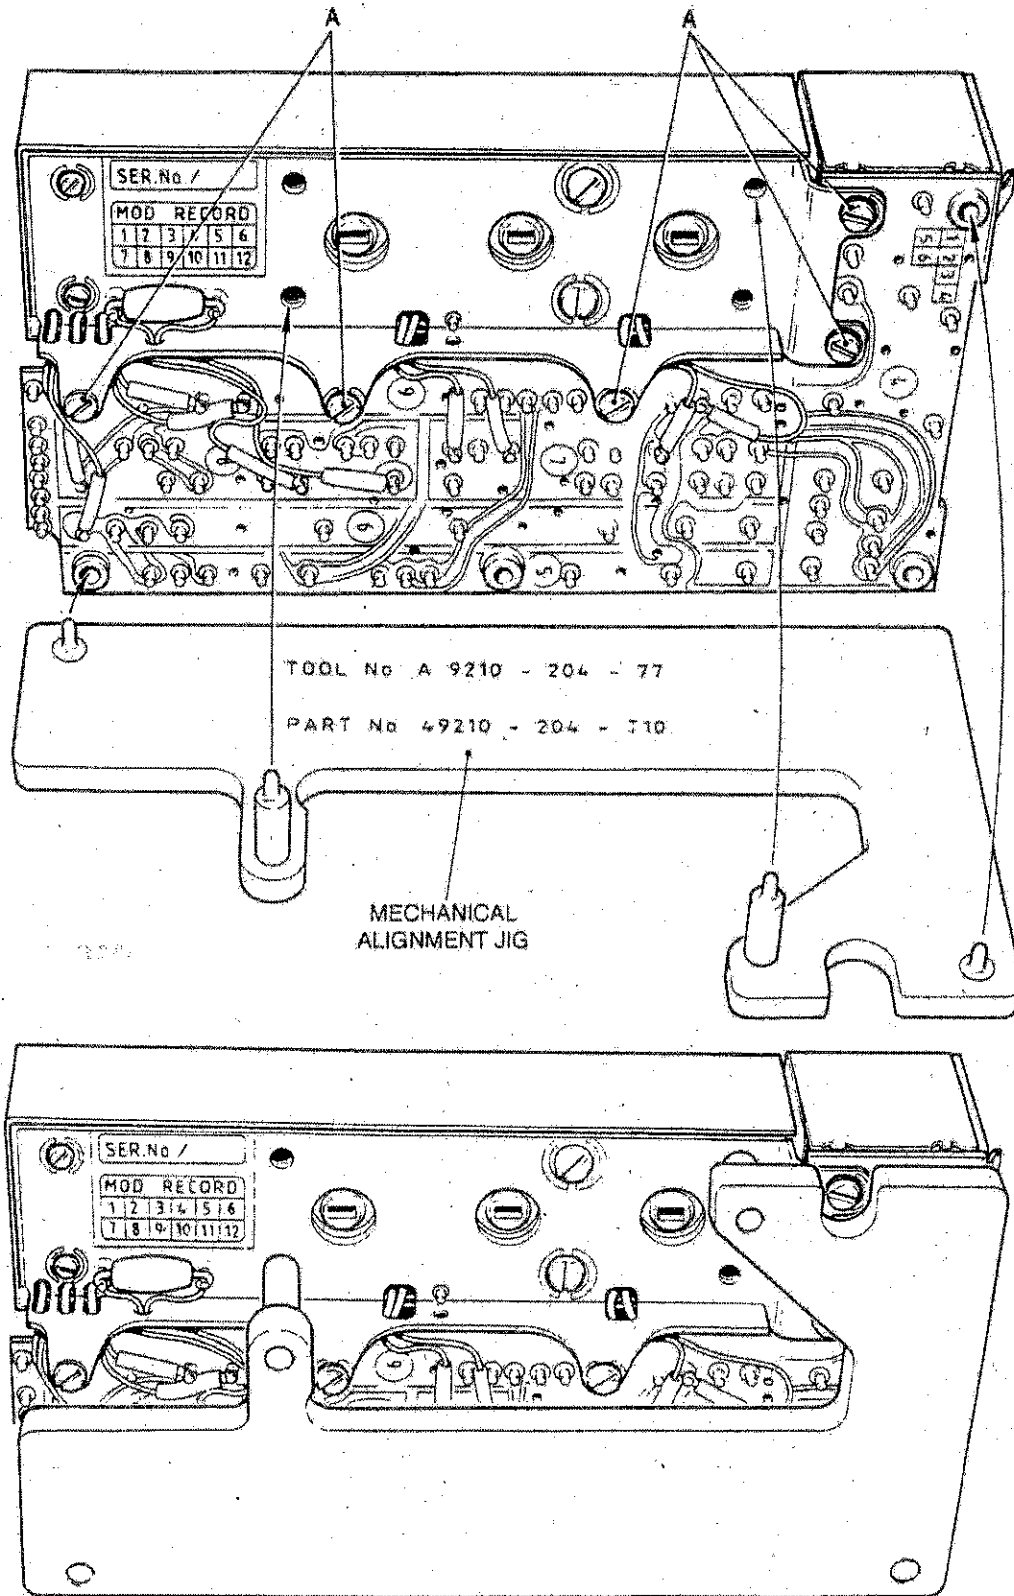

Fig 3 Fitting synthesizer-to-motherboard mechanical alignment jig
- 44.3 Fit the jig (Fig 3) ensuring that all four dowels are properly located in the relevant holes and tighten the five 2.5 mm screws.